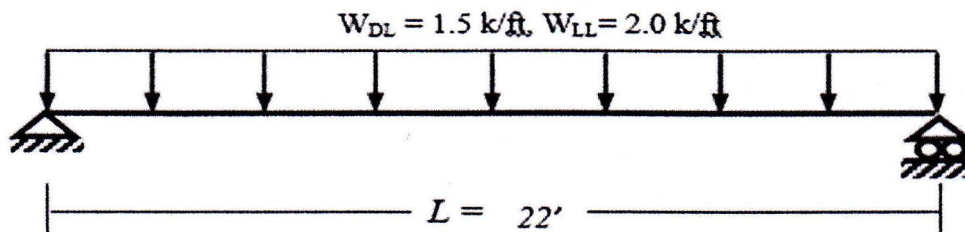

Figure 2
2. A rectangular beam carries a service live load (unfactored) of 2.0 k/ft and an unfactored superimposed dead load of 1.5 k/ft on a 22 ft simple span as shown in **Figure 2**. The beam will have a cross-section of 14" x 22" for architectural reasons. Design the beam for flexure. Assume, $d'=2.5"$, $f'_c=3$ ksi, $f_y=60$ ksi [15]